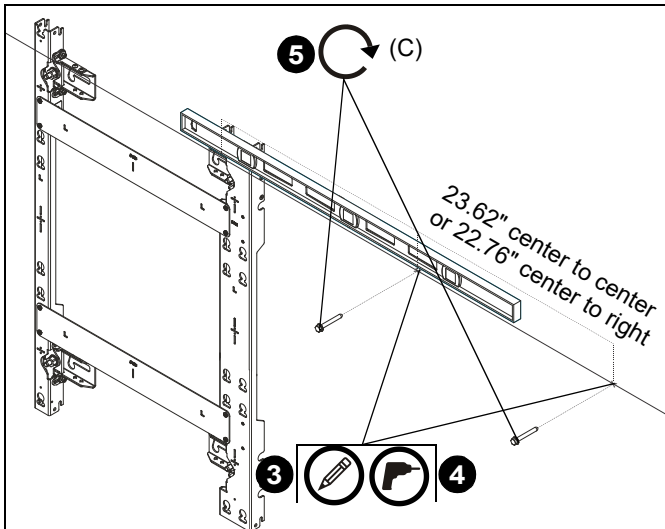

Figure 15
3. Mark mounting hole in top mounting slot along the horizontal line marked in Step 3 of **Installing First Mount Section**. (See Figure 15)
NOTE: The mounting holes are 23.62" apart on-center for center (M) and center (M) or 22.76" for center (M) and right (N) uprights. (See Figure 15)
4. Drill pilot hole (see Table 1 for size) at each location marked in Step 3 (See Figure 15)
5. Loosely install lag screws (D) into drilled holes following fastener information located in Table 1. (See Figure 15)